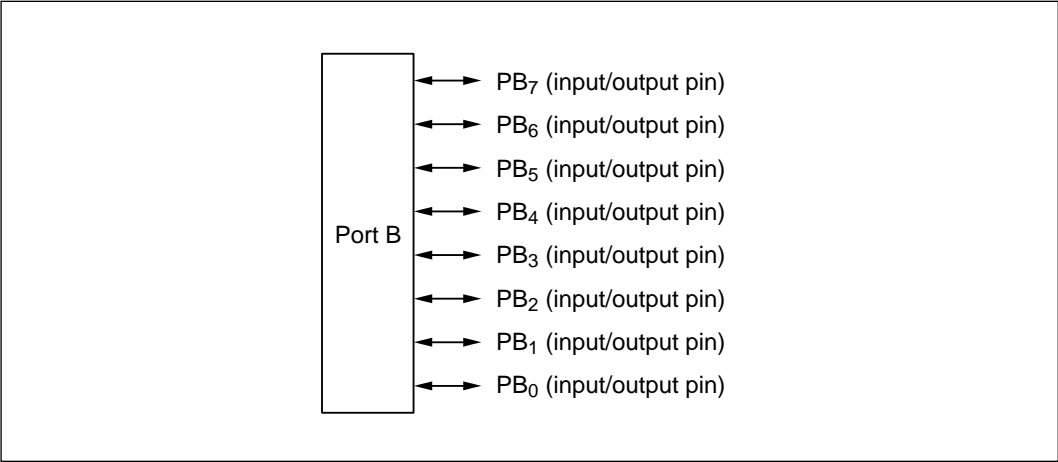

Figure 10-77 Pin Functions in Mode 7
(3) Pin Functions in Mode 7: Port B consists of general-purpose input/output pins. Input or output can be selected separately for each pin. A pin becomes an output pin if the corresponding PBDDR bit is set to 1 and an input pin if this bit is cleared to 0. Figure 10-77 shows the pin functions in mode 7.